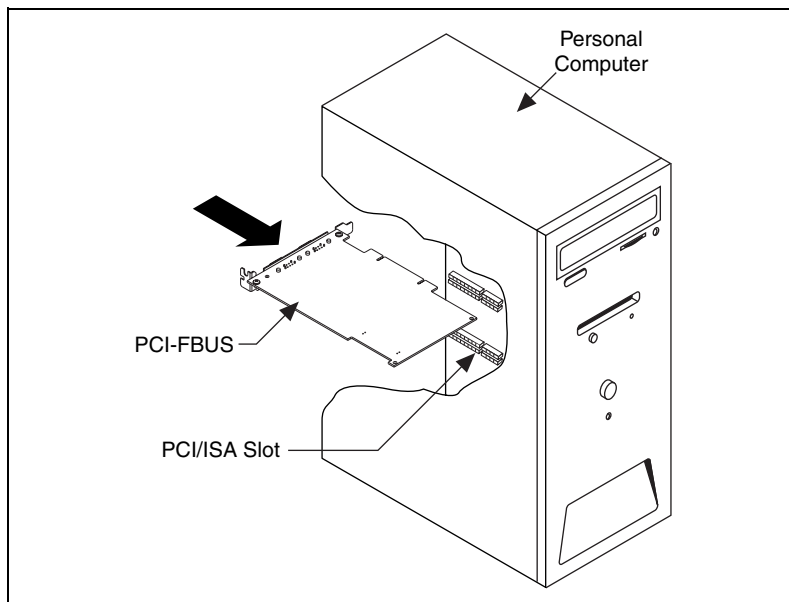

Figure 2-1. Installing the PCI-FBUS Board
4. As shown in Figure 2-1, insert the PCI-FBUS board into any unused PCI slot with the Fieldbus connector sticking out of the opening on the back panel. Make sure all pins are inserted an equal depth into the connector. Although it might be a tight fit, do *not* force the board into place.